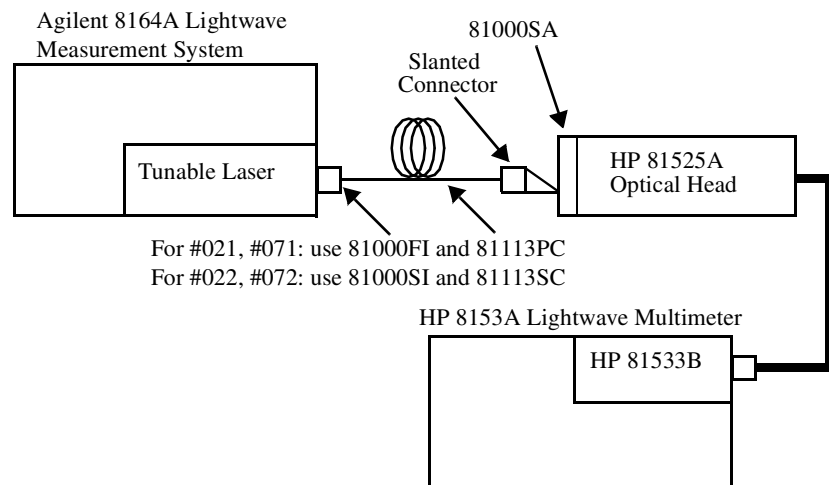

Figure 20 Test Setup for the Maximum Output Power Tests
1 Set up the equipment as shown in Table Figure 20.
- 1 Set up the equipment as shown in Figure 20 (remember to calibrate the Agilent 81001FF Attenuation Filter if using 81524A).